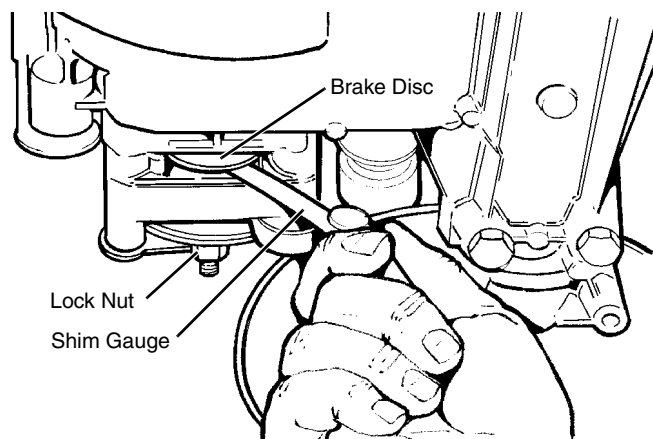

FIG. 27
- Insert a **0.25 mm (0.010 in.)** shim gauge between the disc and friction puck (See FIG. 27). The shim should slide with slight interference.